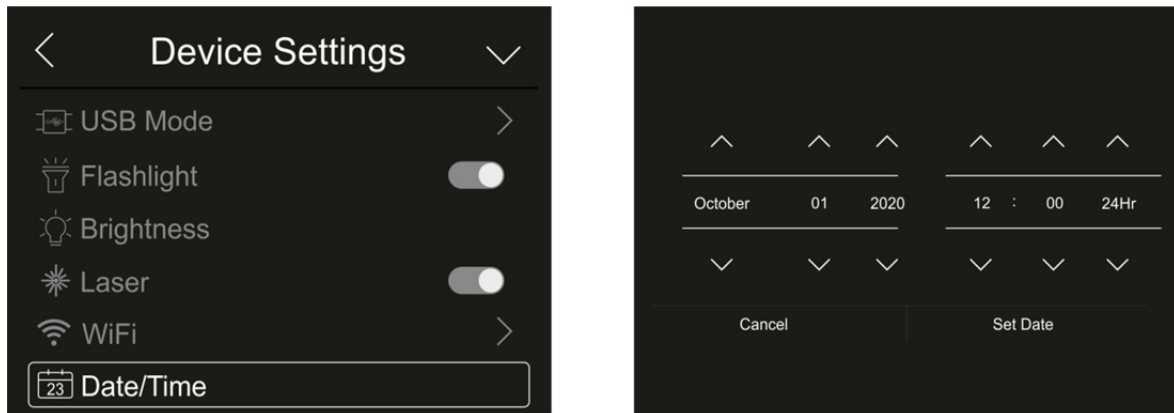

Fig. 18: System date/time setting
1. Touch the item “Date/Time” to set the system's Date/Time. The screen in Fig. 18 – right side appears on the display: